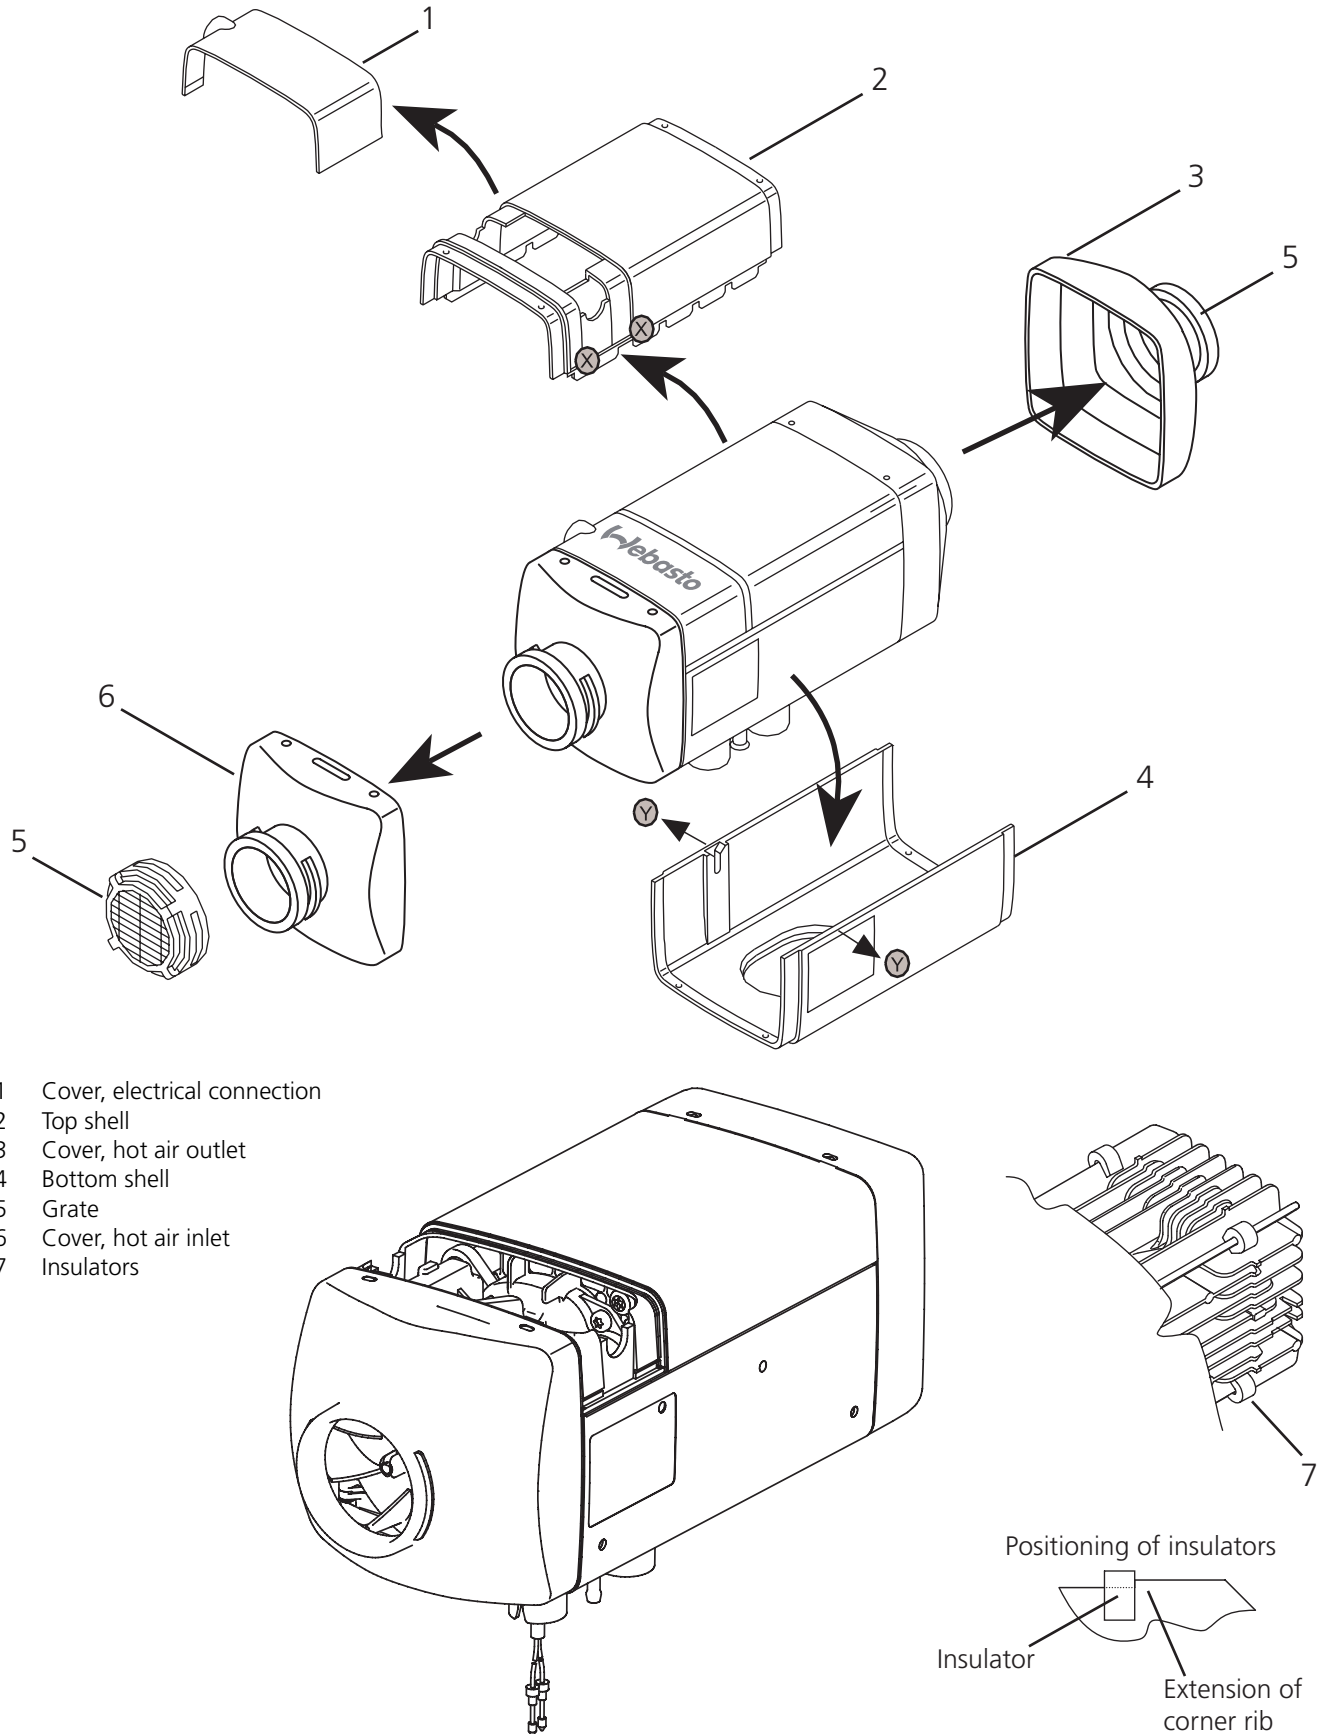

Figure 29: Remove / Fit the Casing Parts
The cover (1, Fig. 29) can be levered off using a blunt blade in the areas (X).
Both covers (3 and 6, Fig. 29) can be released from their mountings and removed by pressing the four detents at the top and bottom using a suitable tool.
The shell (2, Fig. 29) can be raised by pulling up.
By gently pulling the bottom shell (4, Fig. 29) on both sides in the areas (Y), you can release the fixing and the shell can be taken off the motor casing.
- Slide the four insulators (8, Fig. 29) onto the four corner ribs of the heat exchanger and position exactly next to the rib extension.
- Check that all four insulators (8, Fig. 29) are securely positioned.
CAUTION: When you fit the bottom shell (4, Fig. 29), spread it slightly so that the spacers on the overheating sensor (8, Fig. 30) are not damaged.
1. Expand the bottom shell (4, Fig. 29) slightly at the side and fit it to the heater from underneath until the securing pins on the heater engage in the holes in the shell.
1. Place the top shell (2, Fig. 29) on the heater and secure it in the grooves in the bottom shell.
1. Push on the covers (3 and 6, Fig. 29) until the four securing holes engage properly in the detents on the bottom and top covers.
Fit the grates (5, Fig. 29) on the covers for the hot air inlet and outlet and twist them to secure them.
1. Fit the cover (1, Fig. 29) until it audibly engages in the top cover.